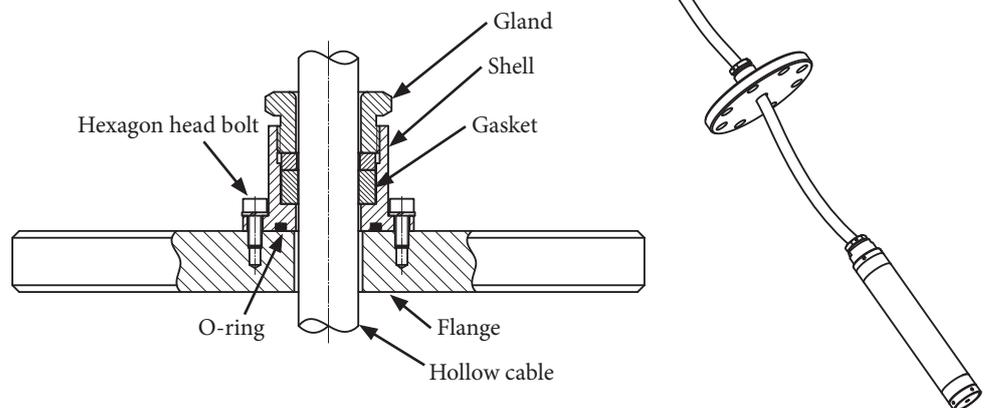

Fig. 3-1. Cable-retaining flange
- When using a cable-retaining flange, tighten the gland, compress the gasket, and fix the hollow cable. (➔ Fig. 3-1)